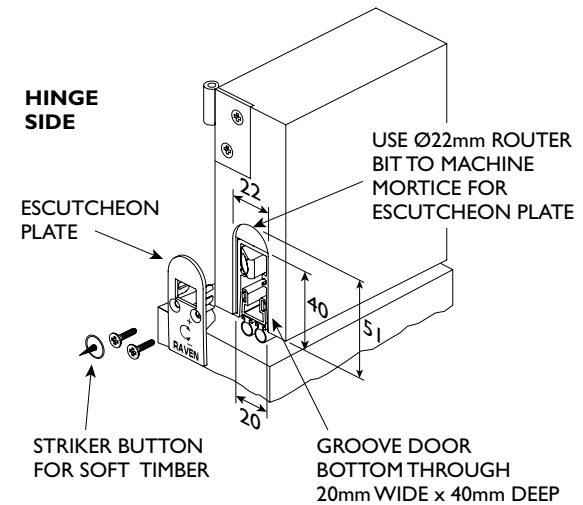

FIG.4
- STEP 8** Fit escutcheon plates with the shortest screws supplied (do not use a powered driver). Push adjustment block to check seal operates freely. Hang door. (FIG.1) **Note:** Pull down inner extrusion by a few millimetres when fitting escutcheon plates. (FIG.4)